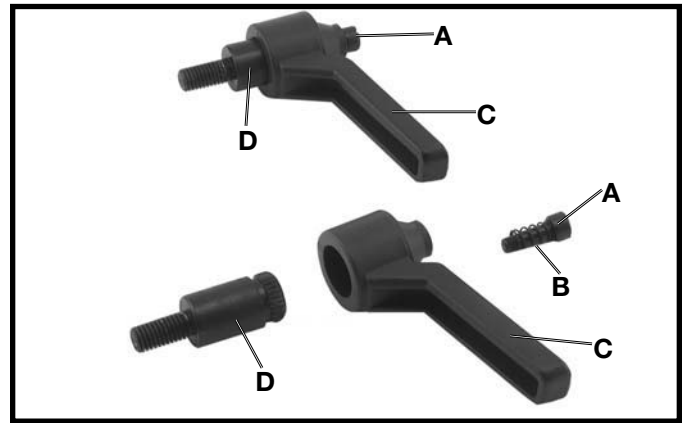

Fig. 13
2. Two clamp handles are supplied with your machine, one for the belt sander table and one for the disc sander table. Disassemble both handles by unscrewing and removing screw (A), spring (B), and handle (C) from locking stud (D), as shown in Fig. 13.